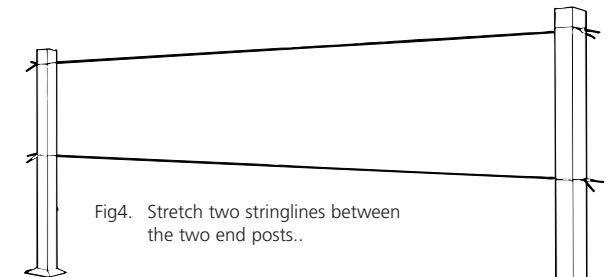
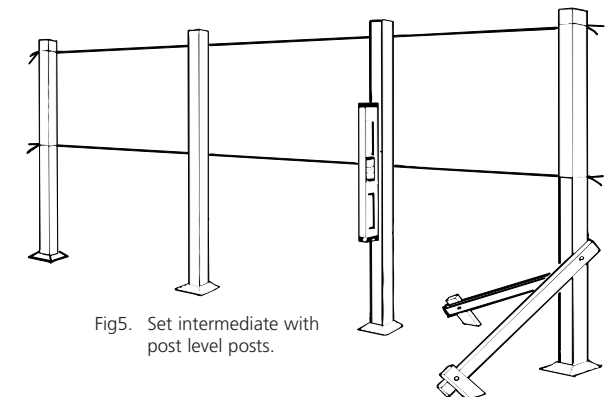

Fig4. Stretch two stringlines between the two end posts..
Fig5. Set intermediate with post level posts.
- Stretch a string line between the top of the two end posts (see Fig 4), it is a good idea to stretch a second line about mid-way down the height of the posts. Now set the intermediate posts every 2 to 2.7 metres using the procedure outlined above. Ensure the intermediate posts are level with the string lines and vertical (see Fig 5).